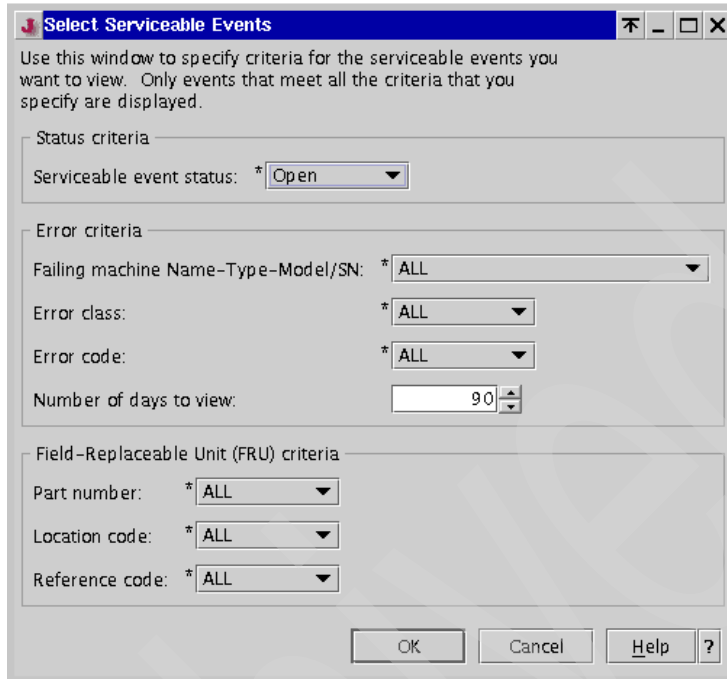

Figure 11-16 Select Serviceable Event
1. Select the Select Serviceable Event task in the Content area. The Select Serviceable Event window opens as shown in Figure 11-16 on page 266.
2. To view all events on all managed systems leave all settings at default and click **OK**. The selection boxes provided in the window shown in Figure 11-16 can be used to filter the serviceable events so that only a subset of events can be retrieved.